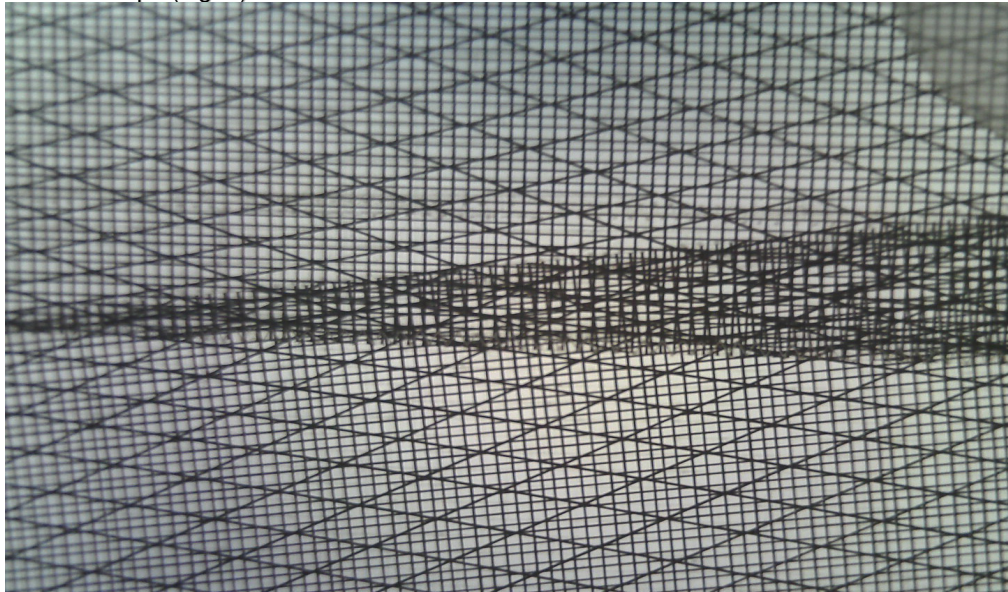

Fig 2. Technora material
b) Technora, which is the same weave pattern as X-05 but with black cords and wider sail reinforcement strips (fig. 2). This was introduced from serial no. 8526 on.